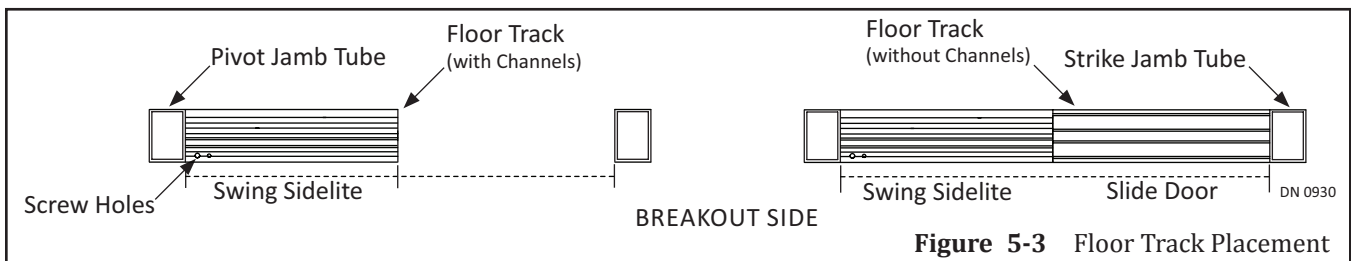

Figure 5-3 Floor Track Placement
4. Butt the edge of Floor Track (with Channels) against the inside face of the Pivot Jamb tube with (2) predrilled Screw holes facing the Breakout Side of Opening. Please see Figure 5-3.
3. Obtain and then insert the Floor Track (without Channels) on the side of the Pivot Jamb tube. Please refer to Figure 5-3.